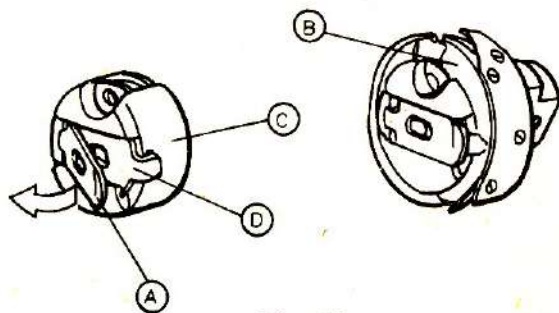

Fig.15
7. To insert and to remove the bobbin case (fig 15)
To remove the bobbin case, the needle should be at its high position. Turn up the bobbin case latch lever(A) and inset the bobbin case(C) into the hook(B) as shown in fig 15. Please mind whether the bobbin case latch(D) is set into the positioning slot of the rotating hook shaft.